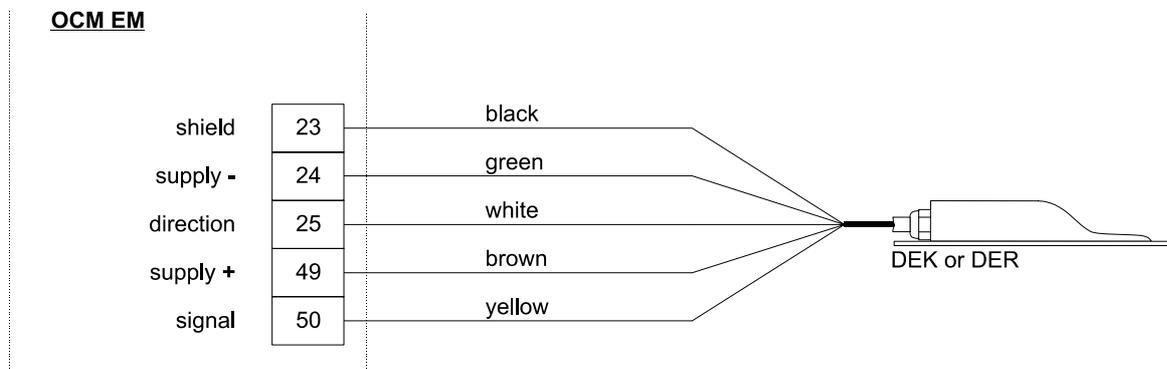

Figure 25. Connection of Velocity Sensor
- Connection of an external level/ height sensor, which supplies a unit of current signal of 0/4-20mA (Figure 25).